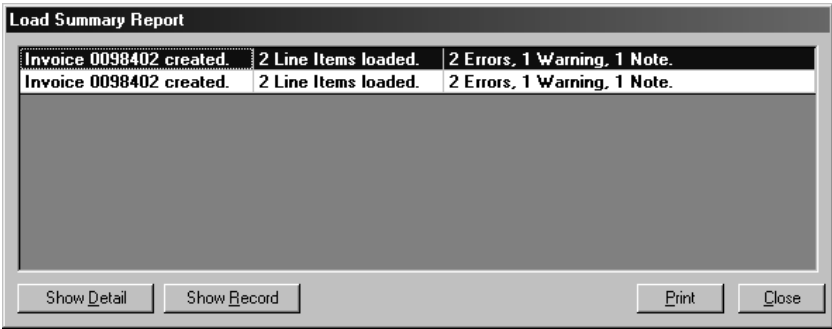

Figure 15-11. Load Summary Report list box
- If you click **Yes**, the Load Summary Report list box opens (see Figure 15-11).